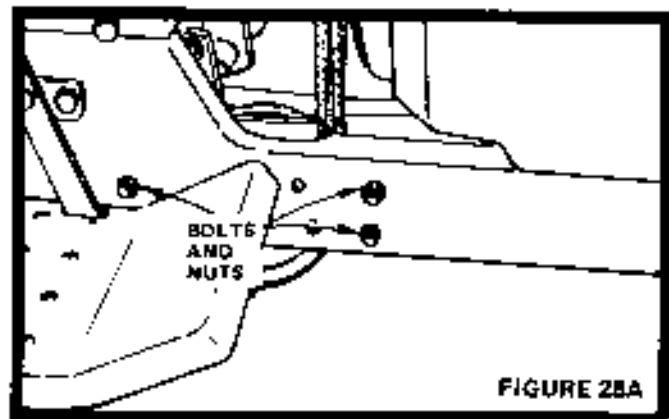

FIGURE 28A
- d. Remove (3) Bolts and Nuts holding Idler Sheaves to frame (Fig. 28A).